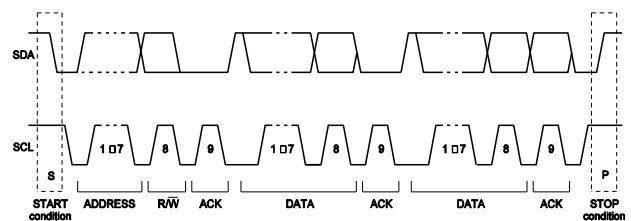

Figure 9: Complete Data Transfer
Data transfers follow the format shown in Figure 9. After the start condition (S), a slave address is sent. This address is 7 bits long followed by an eighth data direction bit (R/W). A zero indicates a transmission (write), and a one indicates a request for data (read). A data transfer is always terminated by a stop condition (P) generated by the master. However, if a master still wishes to communicate on the bus, it can generate a repeated start condition (Sr) and address another slave without first generating a stop condition.